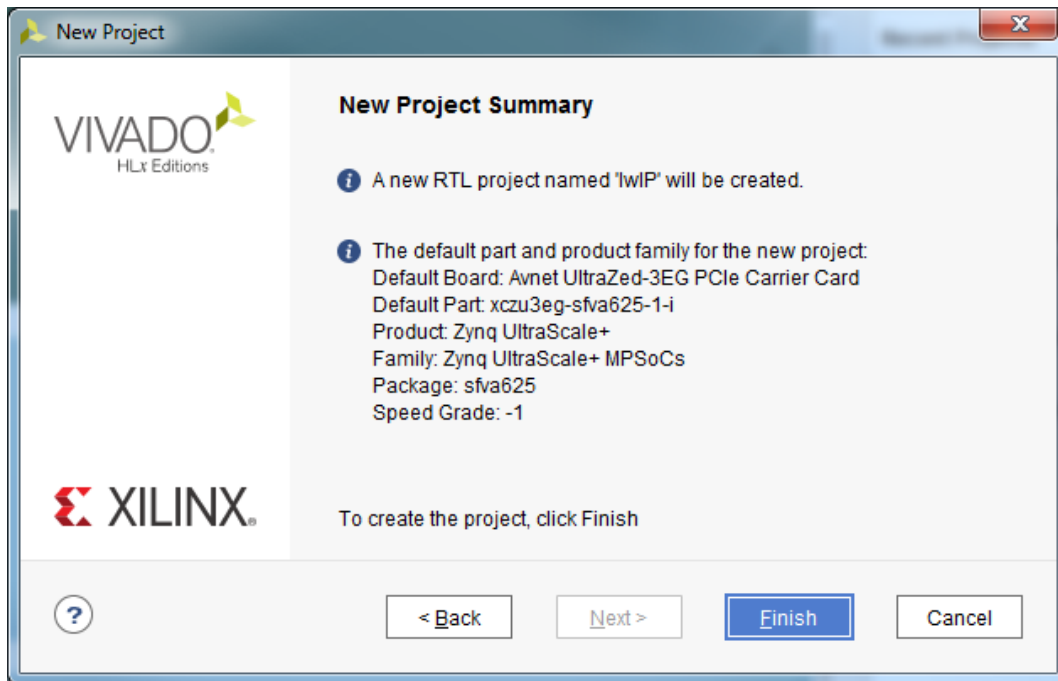

Figure 4 -- Project Summary
7. You will now be at the New Project Summary page. Verify all information matches Figure 4 and select Finish.